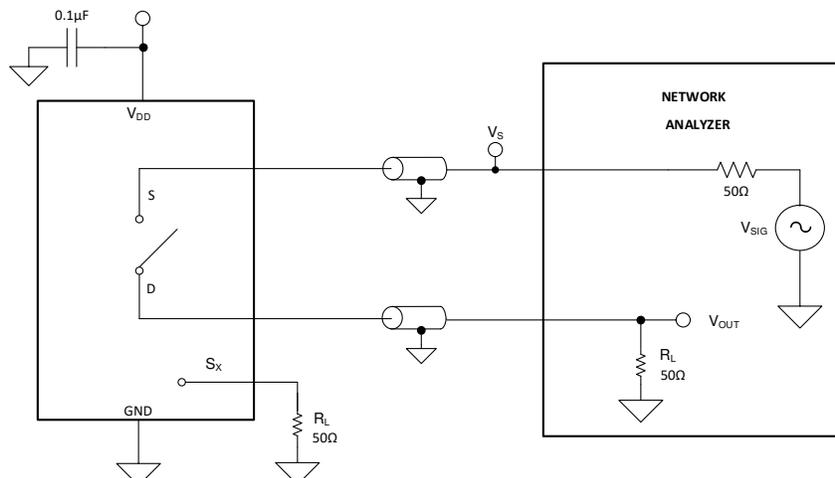

Figure 8-8. Off Isolation Measurement Setup
Off isolation is defined as the ratio of the signal at the drain pin (D) of the device when a signal is applied to the source pin (S_x) of an off-channel. Figure 8-8 shows the setup used to measure, and the equation to compute off isolation.